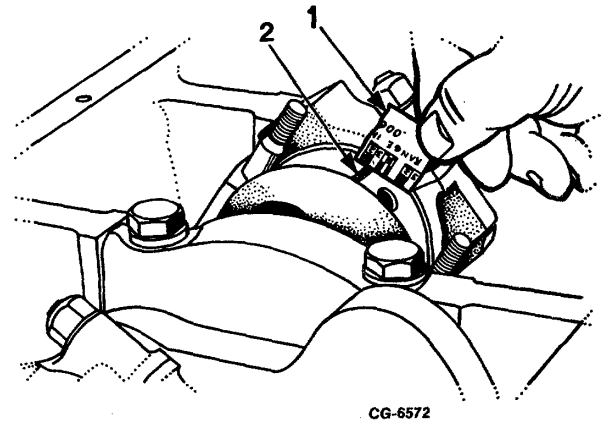

Fig. 108 Checking Connecting Rod Bearing Clearance
4. Remove bearing cap and use Plastigage scale to measure widest point of Plastigage (Figure 108). This reading indicates bearing clearance in thousandths of an inch.